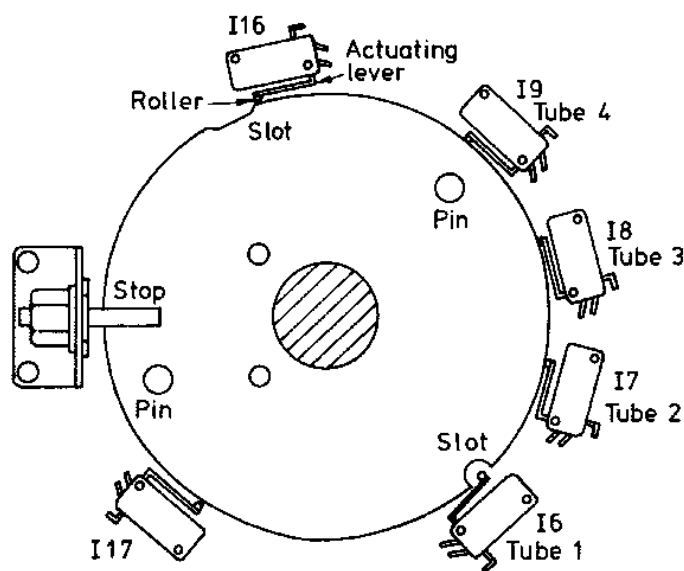

Fig 37 HT CHANGEOVER SWITCH CAM AND MICRO SWITCHES
- B The following micro switches are arranged around the cam plate as illustrated in Fig 37, page 78.